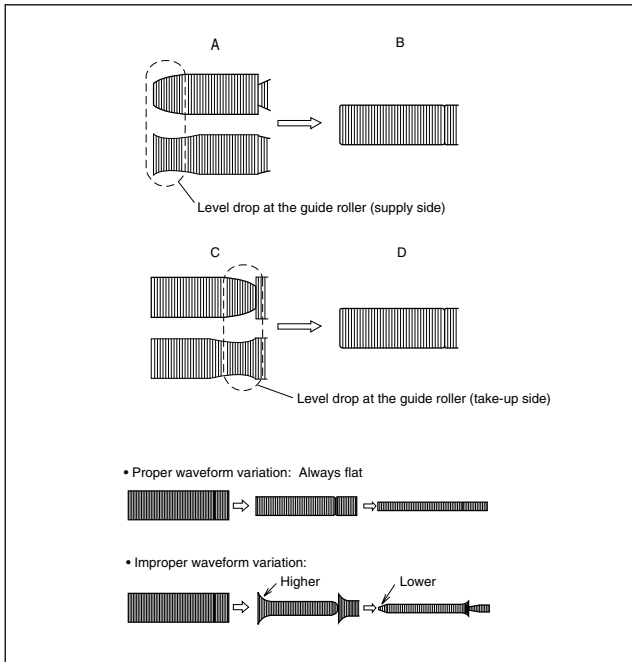
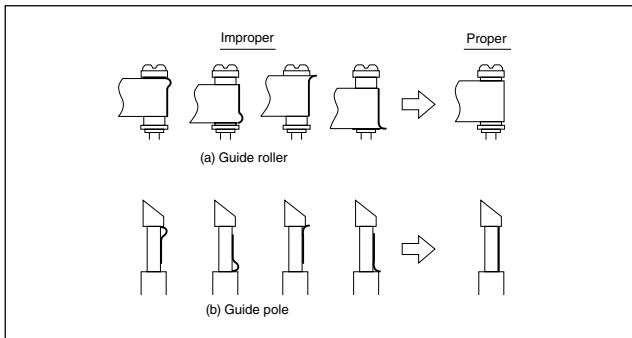

Fig. 2-3-1c
Fig. 2-3-1d
- (5) Reduce the V.PB FM waveform while pressing the channel buttons (+, -) during playback. If a drop in level is found on the left side, turn the guide roller of the pole base assembly (supply side) with the roller driver to make the V.PB FM waveform linear. If a drop in level is on the right side, likewise turn the guide roller of the pole base assembly (take-up side) with the roller driver to make it linear. (See Fig. 2-3-1c.)
- (6) Make sure that the V.PB FM waveform varies in parallel and linearly with the tracking operation again. When required, perform fine-adjustment of the guide roller of the pole base assembly (supply or take-up side).
- (7) Unload the cassette tape once, play back the alignment tape (A1) again and confirm the V.PB FM waveform.
- (8) After adjustment, confirm that the tape wrinkling does not occur at the roller upper or lower limits. (See Fig. 2-3-1d.)